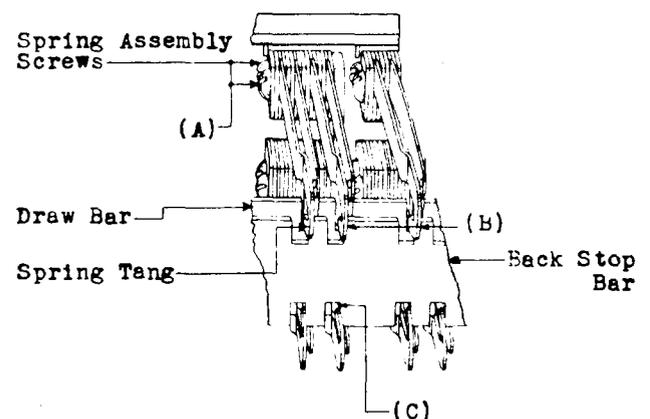

Fig. 1
2.04 Tightness of Assembly - Fig. 1 (A) - All springs in a given assembly shall be held in their relative positions to one another by being securely fastened to the mounting bracket at their bases. Gauge by feel.
(a) Fig. 1 (B) - The spring tangs shall engage vertically with the sides of the notches in the draw bar and back stop bar.
(b) Fig. 1 (C) - The spring tangs shall clear the bottoms of the notches in the draw bar and back stop bar. Gauge by eye.